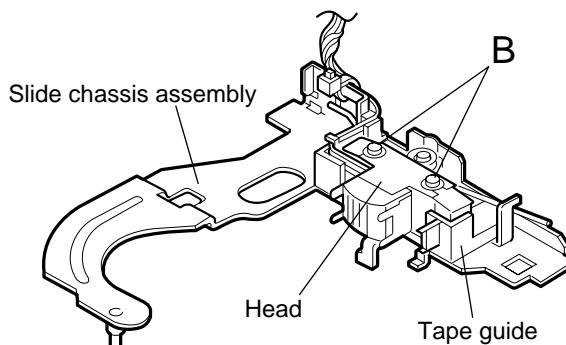

Fig.16
■ Removing the head / tape guide (See Fig.16 and 17)
CAUTION: When reattaching the head, set the wires into the groove of the tape guide (Fig.16).